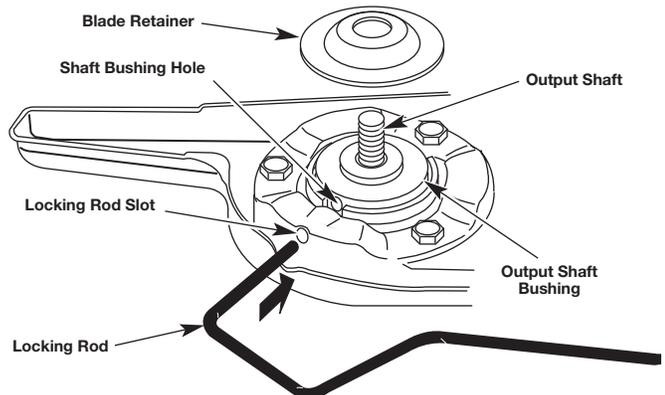
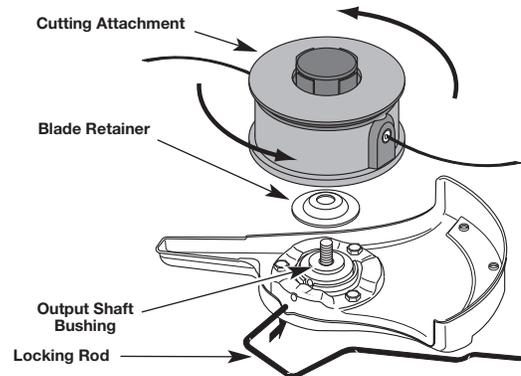

Fig. 10
Fig. 15
1. Align the shaft bushing hole with the locking rod slot and insert the locking rod into the shaft bushing hole (Fig. 10).
- Align the shaft bushing hole with the locking rod slot and insert the locking rod into the bushing hole (Fig. 10).
- Align the shaft bushing hole with the locking rod slot and insert the locking rod into the shaft bushing hole (Fig. 10). Place the blade retainer on the output shaft with the flat surface against the output shaft bushing (Fig. 15). Screw the cutting attachment counterclockwise onto the output shaft. Tighten securely.